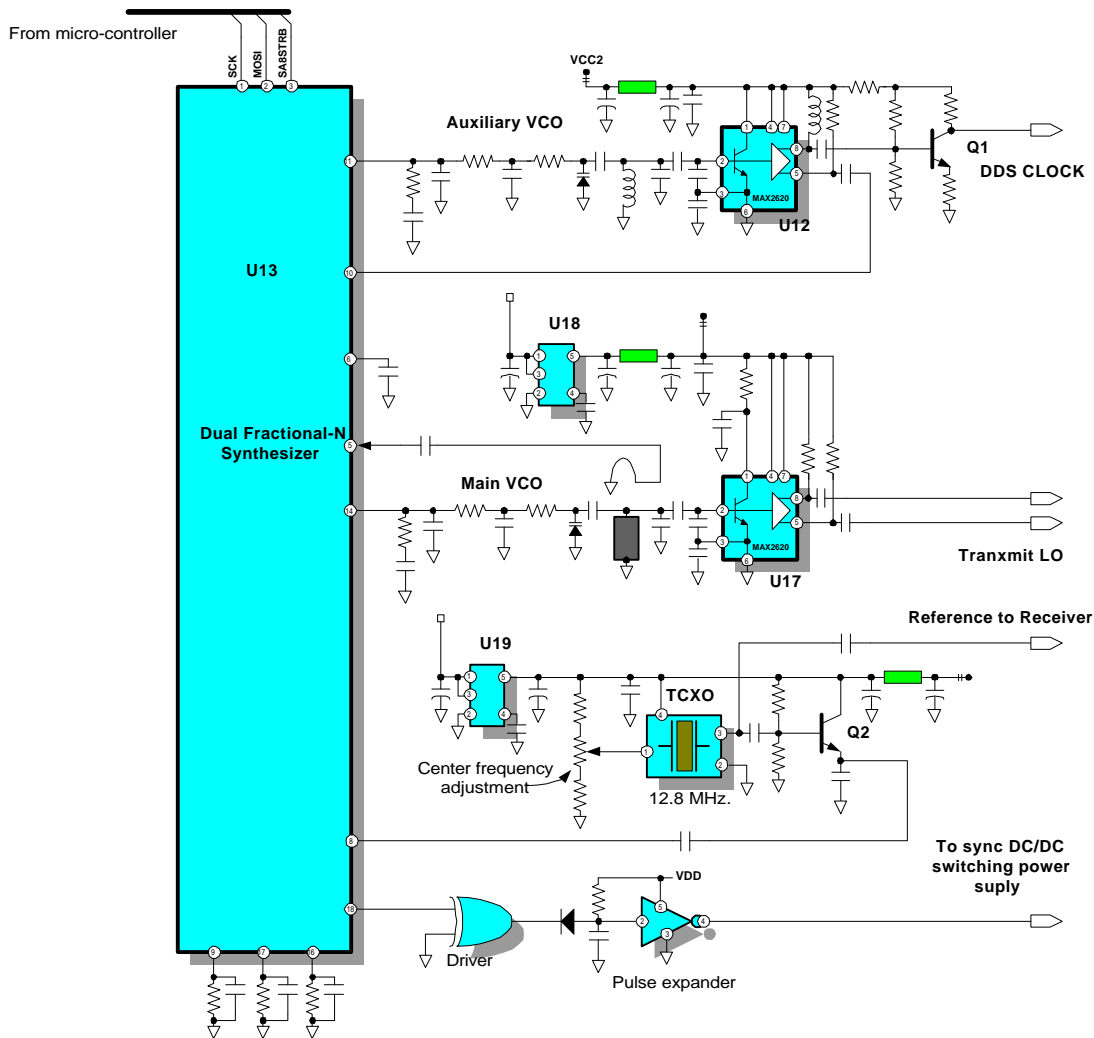

Figure 11
- 3- Connect a scope probe on pin 7 of P2 to a frequency counter and note the minimum and maximum frequency of the TCXO by adjusting R37 (Figure 11). Check and note the minimum and maximum tuning range of the TXCO, then adjust the frequency to 12.8 MHz better than +/- 4 Hz.